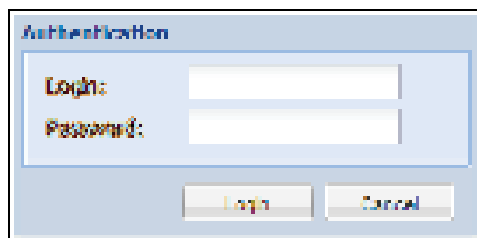

Figure 71. Login Authentication
3. Enter a valid user name and password in the Authentication dialog box (see Figure 71). Click **Login** to continue or **Cancel** to exit.